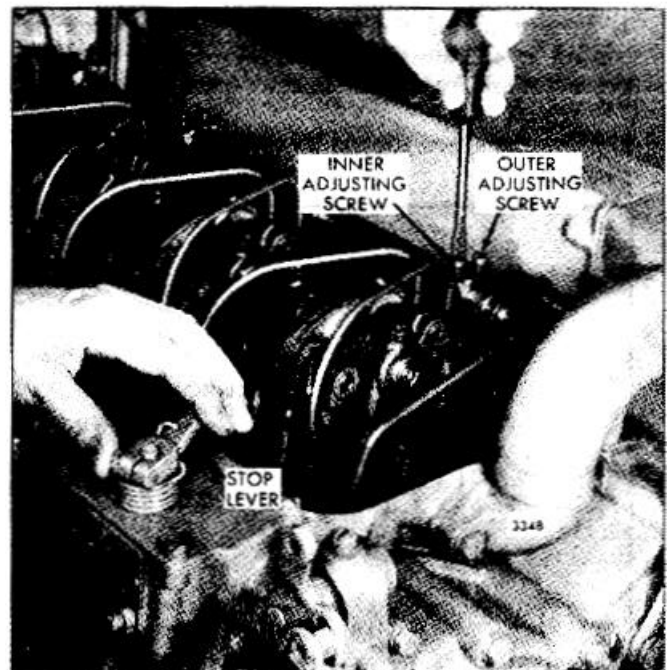

Fig. 2 -Positioning the Rear Injector Rack Control Lever
1. Loosen all of the inner and outer injector rack control lever adjusting screws (Fig. 2). Be sure all of the levers are free on the injector control tube.